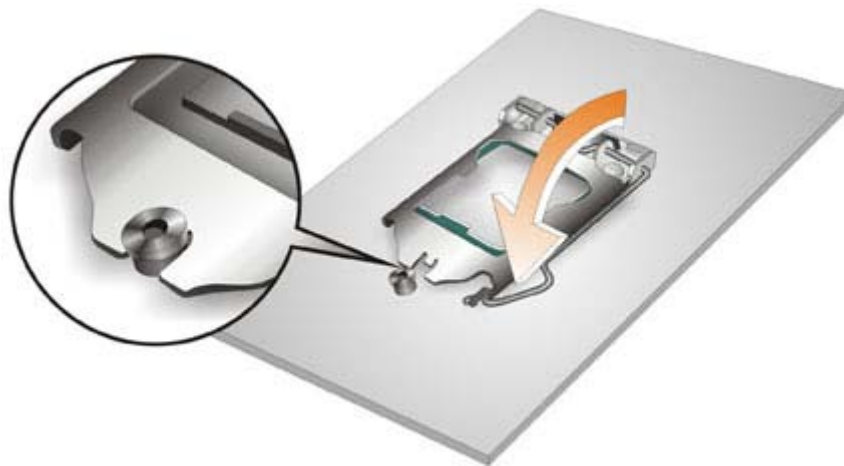

Figure 4-4: Close the Socket LGA1356
Step 8: Close the CPU socket. Close the load plate and pull the load lever back a little to have the load plate be able to secure to the knob. Engage the load lever by pushing it back to its original position (**Figure 4-4**). There will be some resistance, but will not require extreme pressure.